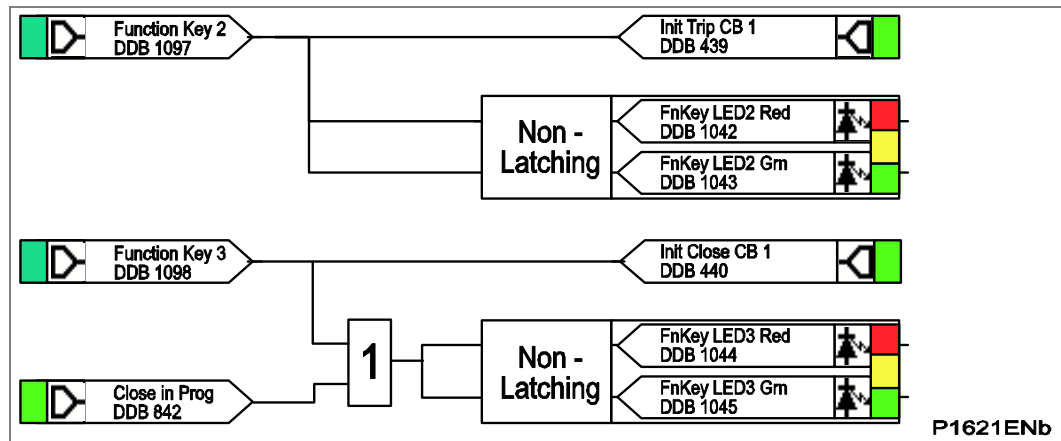

Figure 108 - CB control via function keys default PSL
- Figure 108 - CB1 condition monitoring - broken current